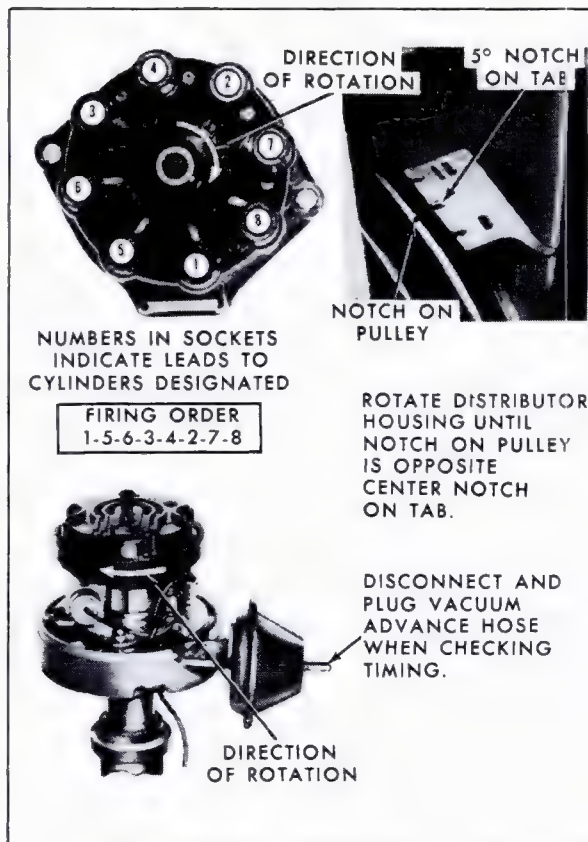

Fig. 6-54 Ignition Timing Adjustment
9. Observe timing light flashes on pulley in relation to notches on front cover. Rotate distributor so that light flashes when notch on pulley and center notch on front cover tab are aligned. The center notch is five degrees ahead of top dead center, Fig. 6-54.